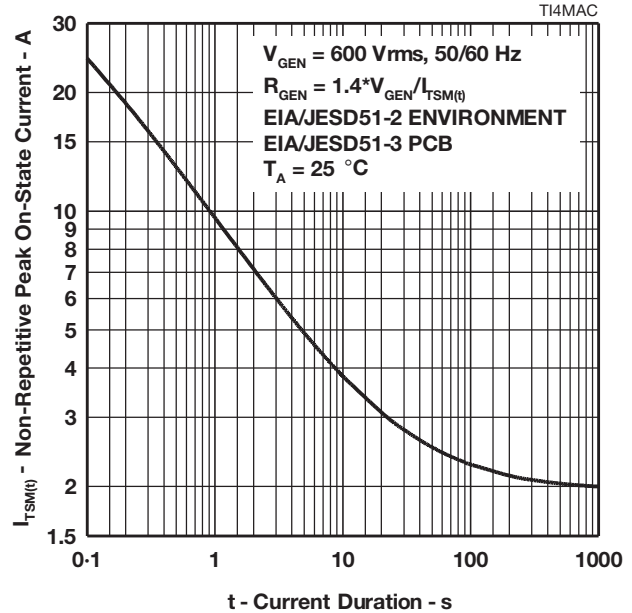

Figure 11.
10. EIA/JESD51-2 environment and EIA/JESD51-3 PCB with standard footprint dimensions connected with 5 A rated printed wiring track widths. See Figure 11 for the current ratings at other durations. Derate current values at $-0.61\text{ }^{\circ}\text{C}$ for ambient temperatures above $25\text{ }^{\circ}\text{C}$.